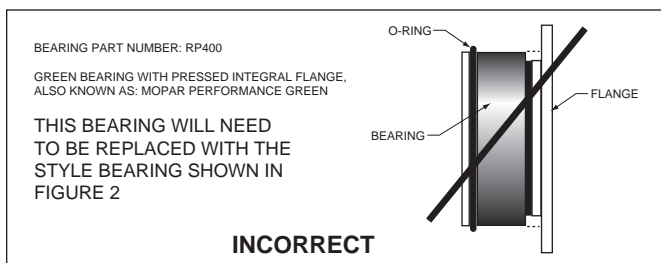
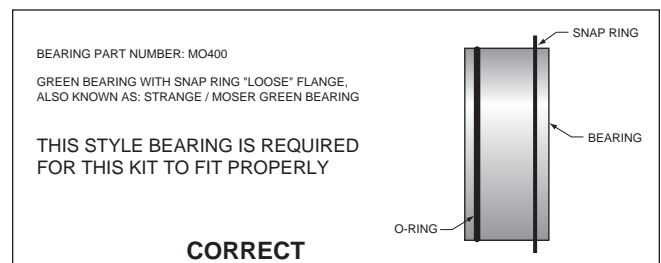
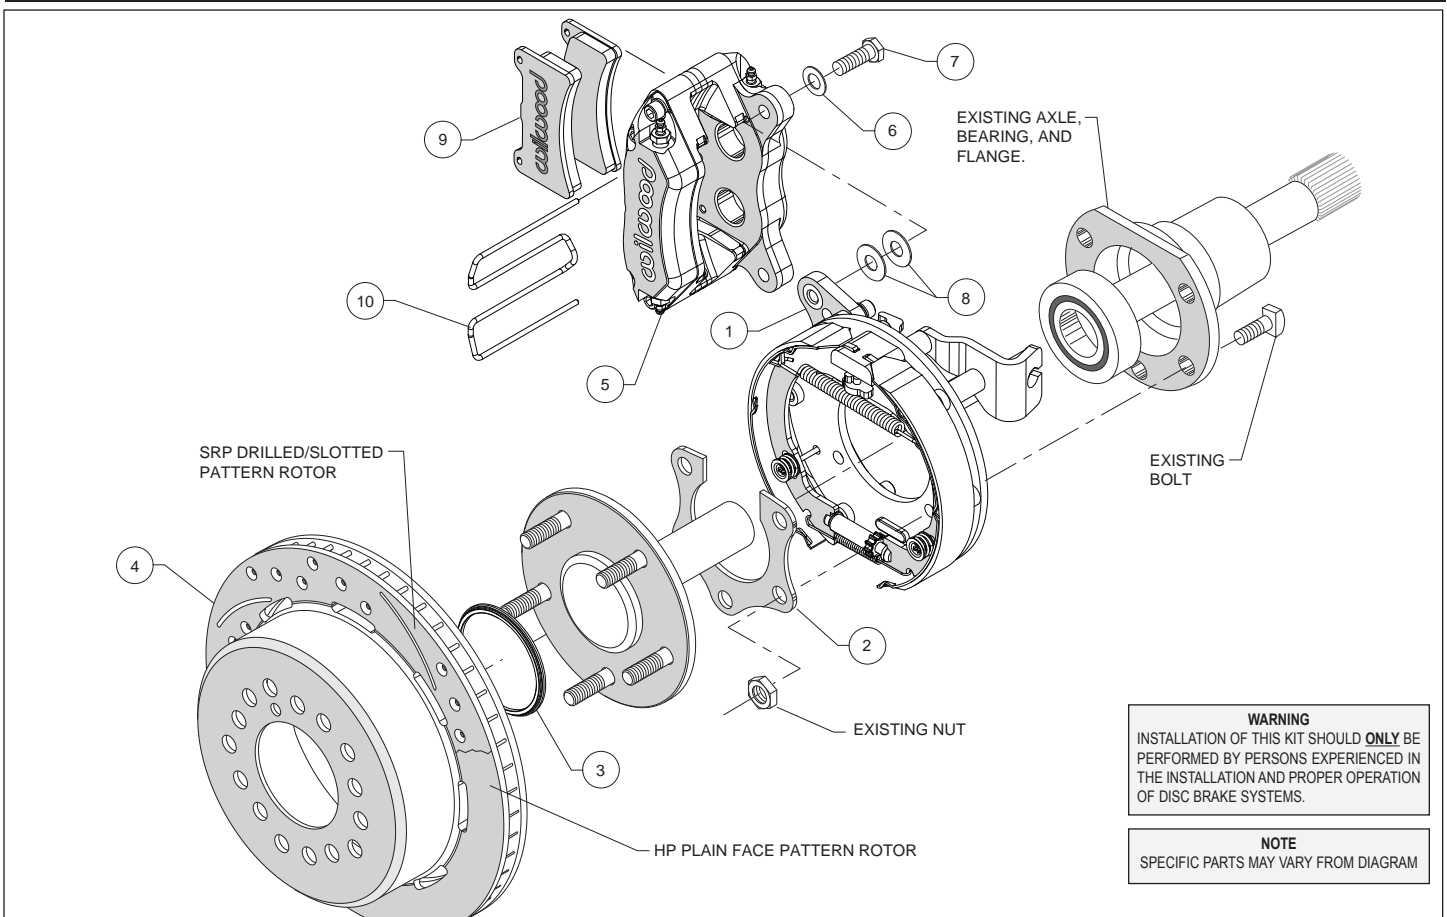
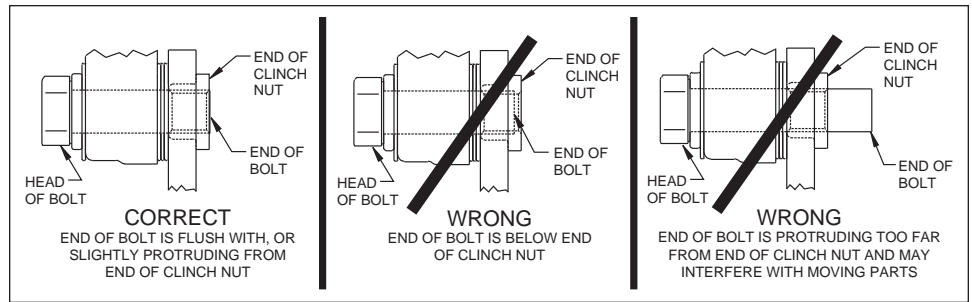

Figure 1. Press Fit Bearing Configuration
Figure 2. Loose Fit Bearing Configuration
Figure 3. Typical Installation Configuration
Figure 7. Clinch Nut Engagement Diagram
- There are two types of “Green Bearings” being supplied by axle manufacturers. Your setup should look like Figure 2 (below right), not the Figure 1 configuration, otherwise this kit will not fit.
**Assembly Instructions** (numbers in parenthesis refer to the parts list, and Figure 3 on the preceding pages): **CAUTION:** All mounting bolts must fully engage clinch nuts. Be sure to check that all bolts are either flush or protruding through flanged side of clinch nut after shimming, Figure 7.
- Determine that the appropriate snap ring style green bearing has been installed on the axle, as shown in Figure 2. Temporarily remove snap ring from bearing. Orient the bracket assembly (1) as shown in Figure 3 and Photo 1 and slide it onto the axle and over the bearing. Reinstall snap ring on bearing. Insert the axle and bracket into the axle housing. Ensure that the bracket assembly backing plate fits flush against the axle housing flange.
- Install the bearing retainer (2) with the opening pointing upward and the bearing relief step facing inward (toward the bearing), as shown in Figures 3 and 6. Secure retainer and bracket assembly to the axle housing flange using the Original Equipment Manufacturer (OEM) bolts and nuts, Figure 3. Apply red *Loctite*® 271 to the OEM bolt threads and torque to OEM specifications.
•Slide the rotor registration adapter (3) onto the axle register on the axle flange with the smaller O.D. facing toward the rotor/hat (4), Photo 2. Align the correct hole pattern in the rotor/hat with the stud pattern on the axle flange and slide into place, Figure 3 and Photo 3. **NOTE:** The rotor/hat must fit flush against the axle flange or excessive rotor run out may result. Install three lug nuts (finger tight) to keep the rotor/hat assembly in place while continuing with the installation. **NOTE:** Some OEM and after market axles come with stud sizes larger than 0.50" diameter. Verify stud size and have a qualified machine shop drill the bolt circle of the hat/rotor to the correct stud size, if necessary.
•**NOTE:** Please reference the caution statement at the beginning of the assembly instructions. Mount the caliper (5) onto the caliper mounting bracket (1) using bolts (7) and washers (6), as shown in Figure 3. Initially place two .035" thick shims (8) on each bolt between the caliper and the bracket, Photo 4. Temporarily tighten the mounting bolts and view the rotor (4) through the top opening of the caliper. The rotor should be centered in the caliper, Photo 5. If not, adjust by adding or subtracting shims between the bracket and the caliper. Always use the same amount of shims on each of the two mounting bolts. **NOTE:** The end of each bolt must be flush with or slightly protruding from the head of the clinch nut, as shown in Figure 7. If necessary place spare shims between washer (6) and caliper mounting ear to achieve the proper clinch nut engagement. Once the caliper alignment and clinch nut engagement are correct, remove the bolts one at a time, apply red *Loctite*® 271 to bolt threads, and torque to 40 ft-lb.